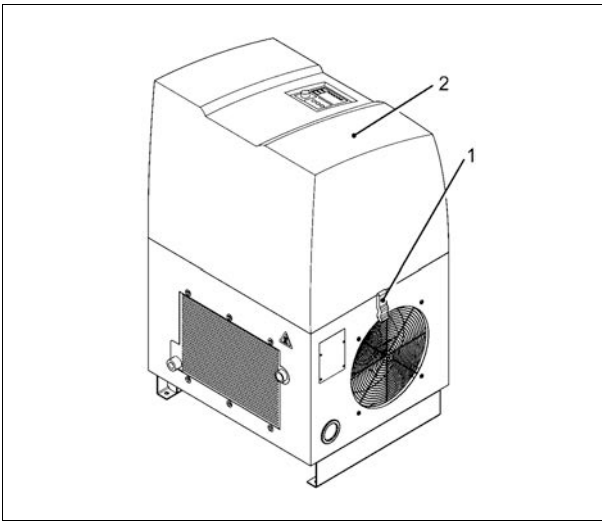

Fig. 6
Opening / closing the hood (Fig. 6)
- Open the lock (- 1 - Fig. 6)
- Remove the hood (- 2 - Fig. 6) and put it down at a safe place